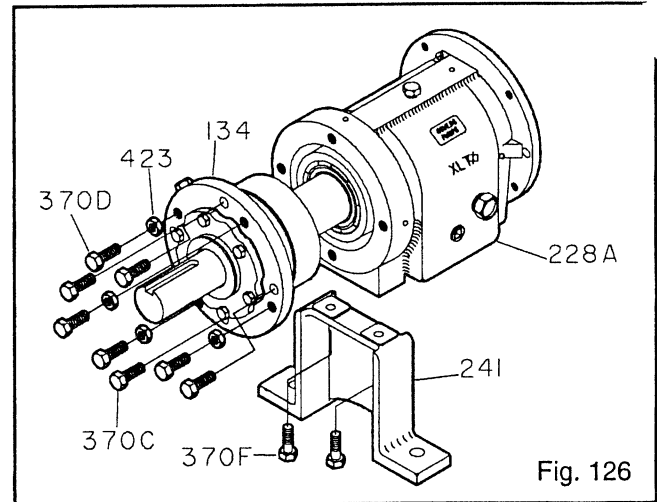

Fig. 126
13. Install shaft assembly into frame (228A). Check shaft for free turning (Fig. 126).
14. Install clamping bolts (370C) into bearing housing (134). Hand tighten.
15. Install jacking bolts (370D) with locking nuts (423) into housing (134). Hand tighten.
16. Attach bearing frame foot (241) with bolts (370F). Hand tighten.